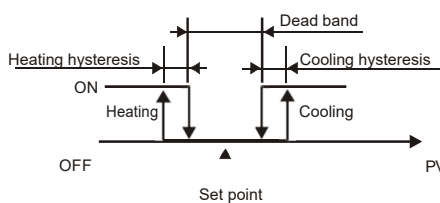

Figure 1. Output operation of ON/OFF control during dual loop output control
**DEAD**: Dead Band, shown as the following figure 1, 2 and 3. This parameter sets an area in which the heating and cooling control output is 0 centering around the set point in a Dual Loop output control mode.